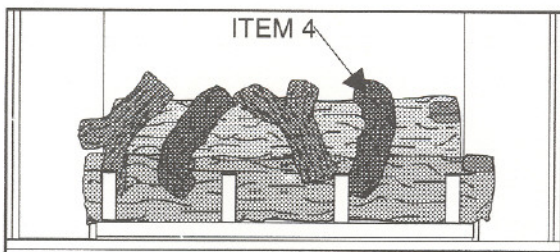

Figure 29
7. See Figure 29. Position the remaining "hooked" log (Item 4) with the "hook" on the second indentation from the right on the Back Log. The "straight" portion of the log will lay on the second indentation from the right on the Front Log.